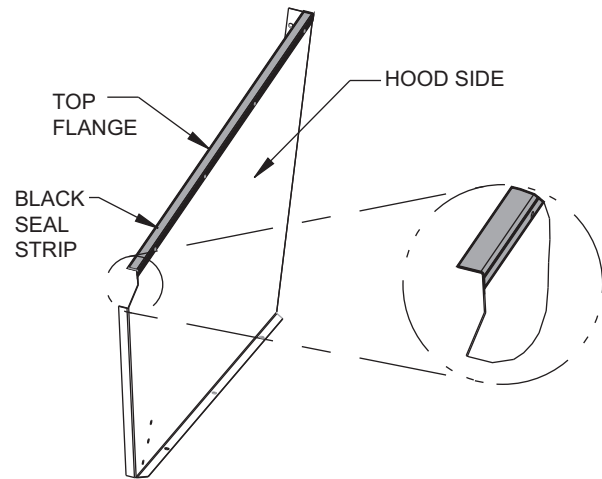

Fig. 19 — Adding Seal Strip to Top of Hood Sides
1. Apply black seal strip (provided) to outside top-edge of hood sides. Wrap seal strip over edge to cover top flange (2 hood sides per hood assembly). Make sure seal strip covers screw holes. See Fig. 19 for seal strip application.